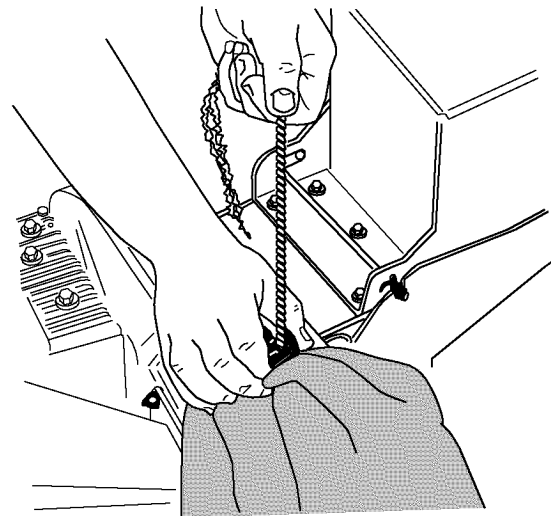

Figure 7
1. To attach the bag, place the opening of the bag over the chute deflector so it completely covers the chute deflector. See Figure 7.
2. Depress the plunger on the drawstring, and pull on the drawstring until the bag is tight around the chute opening. Release plunger to lock it into position. See Figure 7.